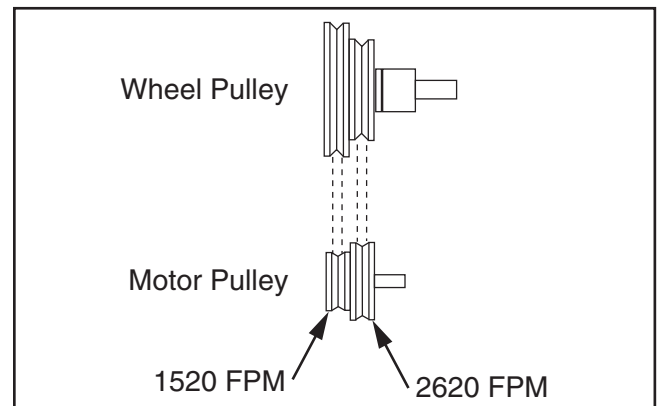

Figure 50. Belt positions on pulleys.
4. Position belt in pulley grooves for desired speed (see **Figure 50**).